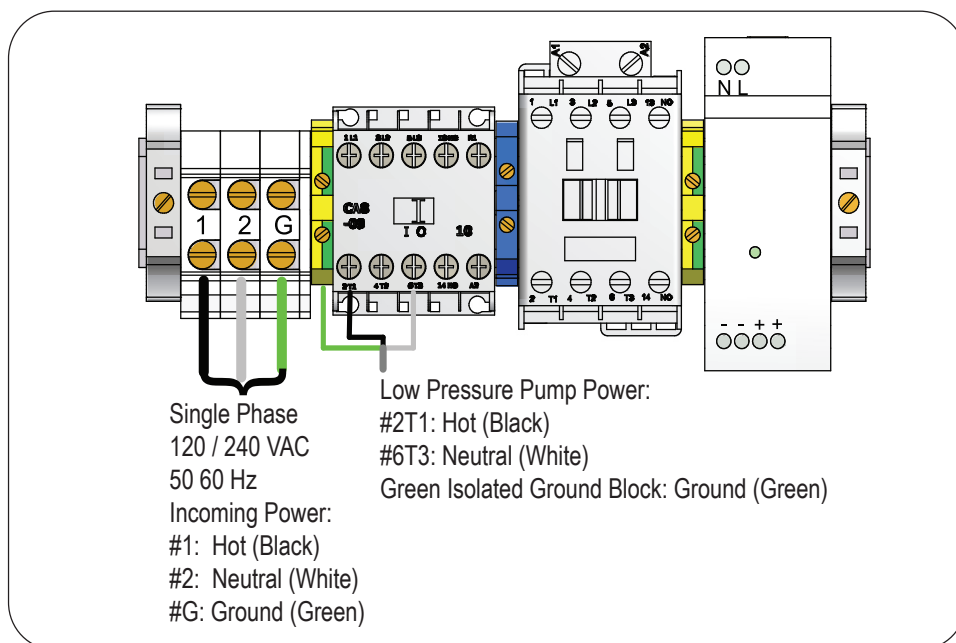

Figure 19: Wiring at the Connector Block (Single Phase)
For single phase power, attach the wires to terminals #2T1 and #6T3 of the LPP contactor, and #G to the green isolated ground block. See *Figure 19* on page 52.
- #1, #2, and #G for single phase power (Figure 19 on page 52)